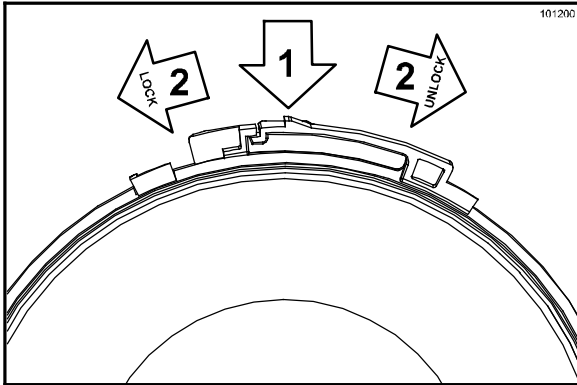

Figure 190
14. Reinstall the ice shaver assembly cover by using the arrows to line up the cover with the ice shaver assembly. Turn the cover counter-clockwise, locking the cover in place. (See Figure 190.)